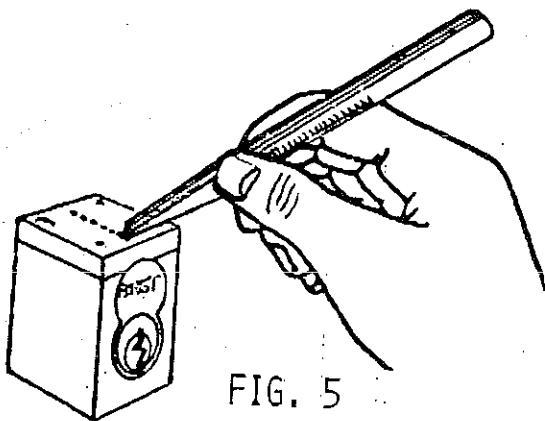

FIG. 5
6. To cap, first place spring in each barrel. Next, put a brass cap on capping block opening above spring. (fig. 5). Using a small hammer, and a capping pin, drive the cap down firmly into place until the capping pin shoulder contacts the capping block. Remove the core from the block.